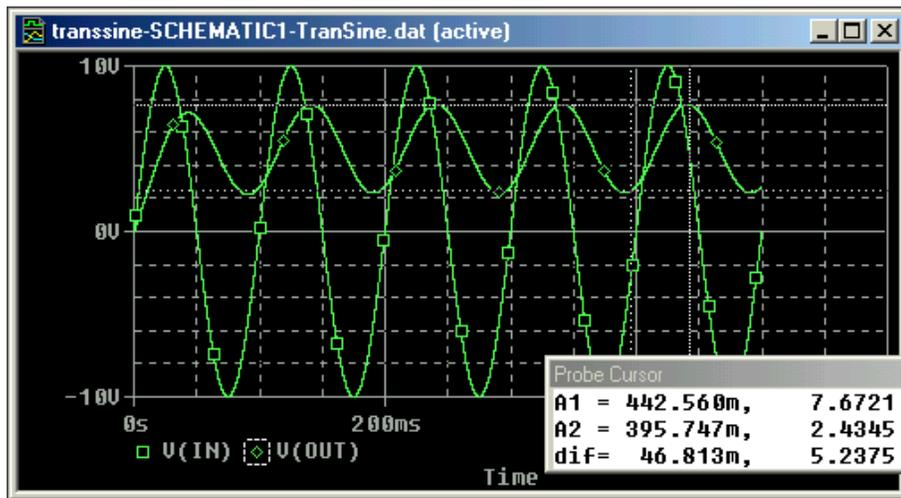

Figure 16: Transient simulation with a sinusoidal input.
9. We used the cursors in Figure 18 to find the 3dB point. The value is 6.49 Hz corresponding to a time constant of 25 ms ($R1 \parallel R2 \cdot C$). At 10 Hz the attenuation of V_{out} is 11.4db or a factor of 3.72. This corresponds to the value of the amplitude of the output voltage obtained during the transient analysis of Figure 16 above.